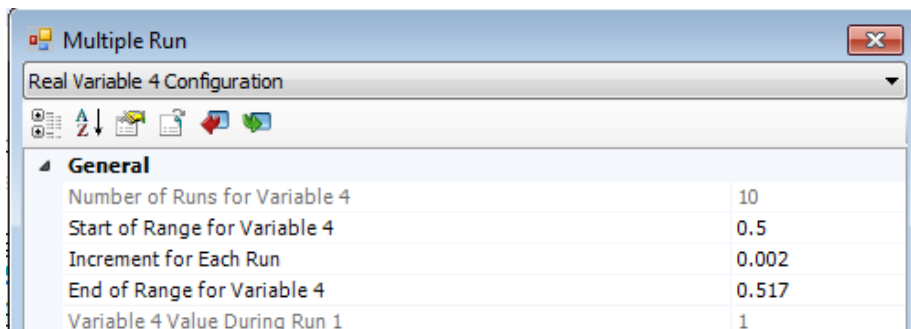

Figure 5: Closing time variation range
- The closing time changes from 0.5 to 0.517 with steps of 0.002 sec (see Figure 5).